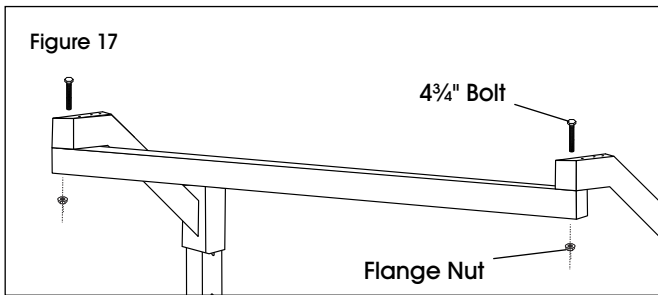

Figure 17
3. Place light steel beam (10) at desired depth underneath brackets. Fasten to brackets (9) with two 4 3/4" bolts and M6 flange nuts. (See Figure 17)